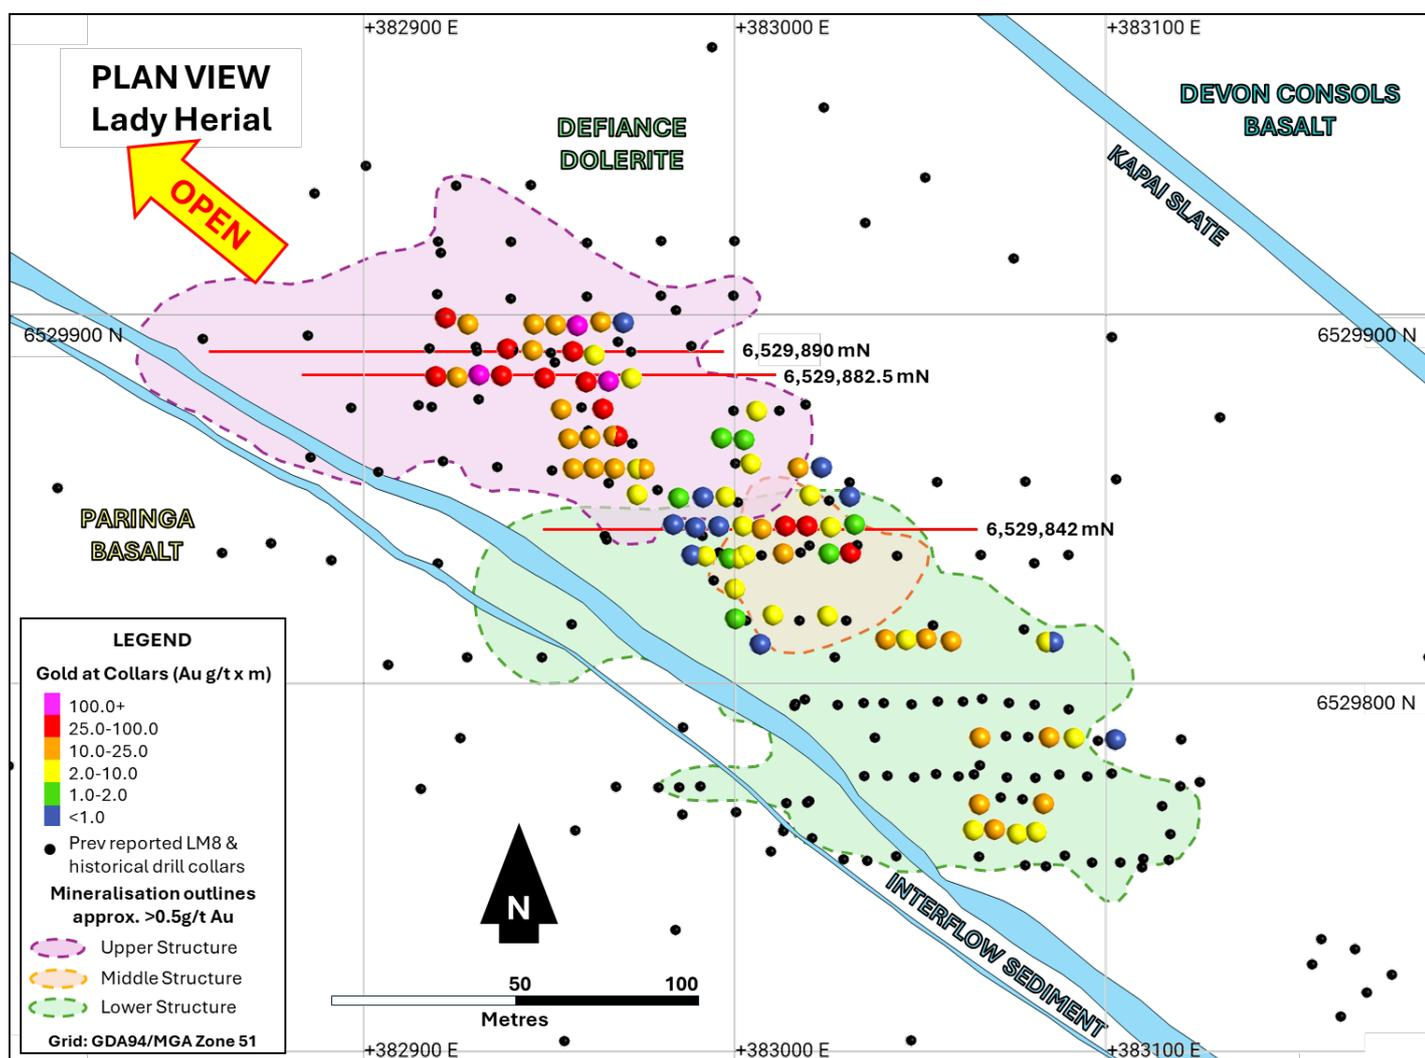
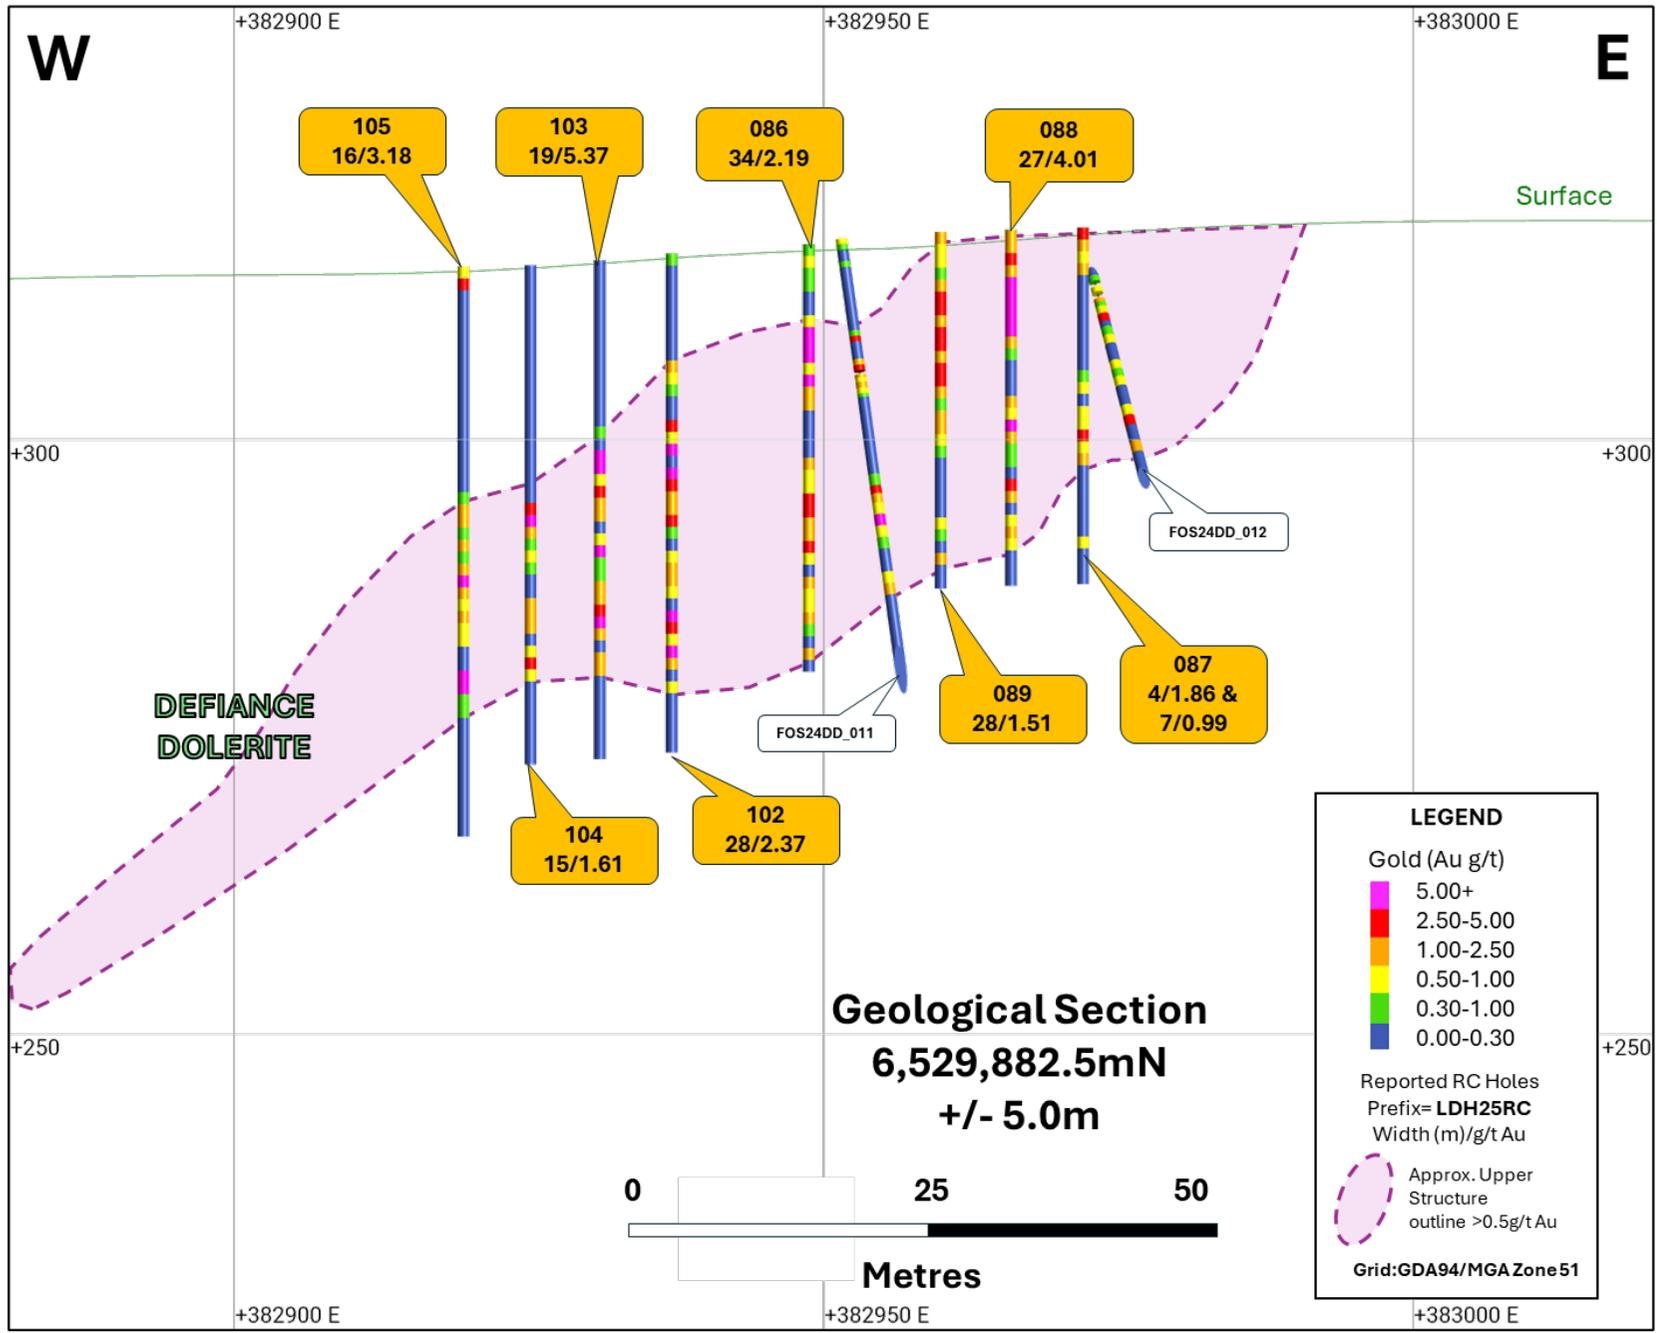

Figure 1: Plan view at the Lady Herial deposit scale, illustrating today's results (coloured spheres) drilled in latest RC campaign.
Figure 3: Geological cross section 6,529,882.5mN
Figure 1 below illustrates a plan view at the drill program scale.
The results further enhance the robustness of the gold structures and will improve the pending grade and Mineral Resource estimation (**MRE**) exercise. The additional close-spaced data enables the Company to not only tighten up the >0.5g/t Au mineralised outlines (shown in plan on **Figure 1** and in section on **Figures 3 to 5**) but also to far more accurately model the higher grade discrete structures within those broader shapes.
- Figure 3: Geological cross section 6,529,882.5mN through the Upper Structure
Note: All drilling results and location details are provided in Annexures 1 and 2 and where previously reported Company and historical drilling has been shown in today's report in plan on **Figure 1**, or section on **Figures 3, 4 and 5**, it is represented as either a collar point or drill trace but without labelled assay or grade accumulation data for ease of viewing of the new information. Assay results for these holes have been previously reported and reference should be made to earlier Lady Herial ASX announcements lodged in 2024, dated 22 April, 17 June, 23 September, 1 October, 10 October, 28 November and 13 December, and in 2025, on 17 January, 19 February and 3 March.
Figure 2 below adds the Foster nickel mine workings and its underground nickel drilling, located some 620 metres beneath Lady Herial, to Figure 1. This overlay of gold and nickel areas of interest highlights the adjacency of the Lady Herial gold footprint over, but vertically separated from, an area the subject of intense nickel exploration, resource definition and then underground development and drilling between the late 1970s and the mid-1990s.